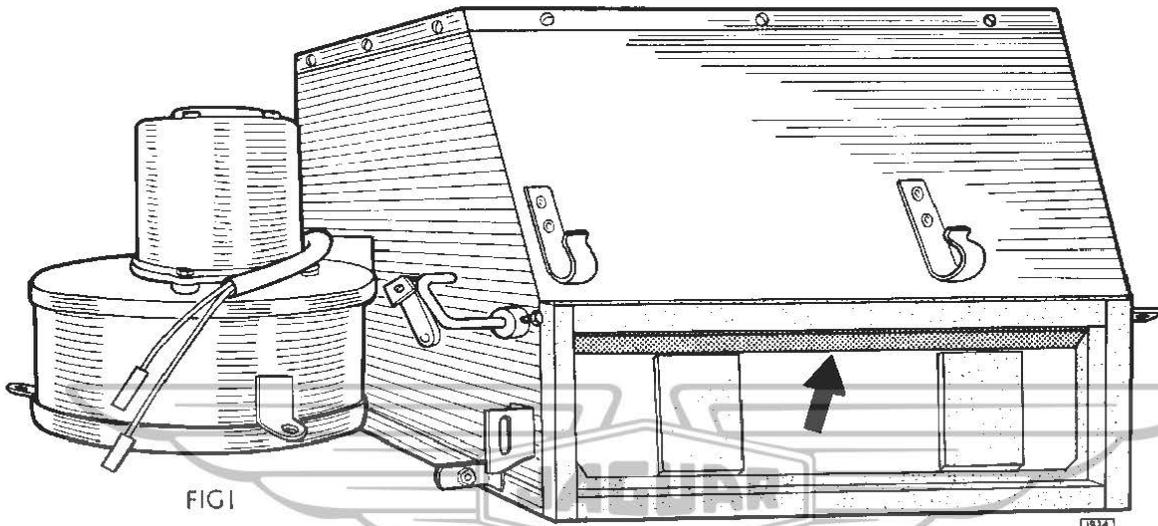

FIG 1
2. Affix a piece of polyurathene (Part number C.15966) to seal the gap at the hinge of the lower flap as shown in Fig.1.